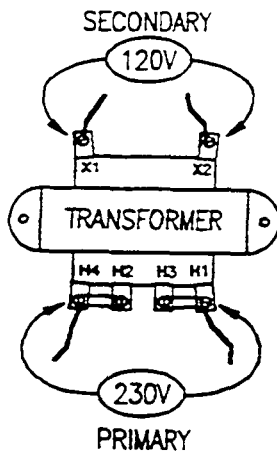

Figure 6-40. Transformer - 24-CEA-10
3. Refer to Figure 6-40, and check for 115/120 VAC across transformer secondary terminals X1-X2.